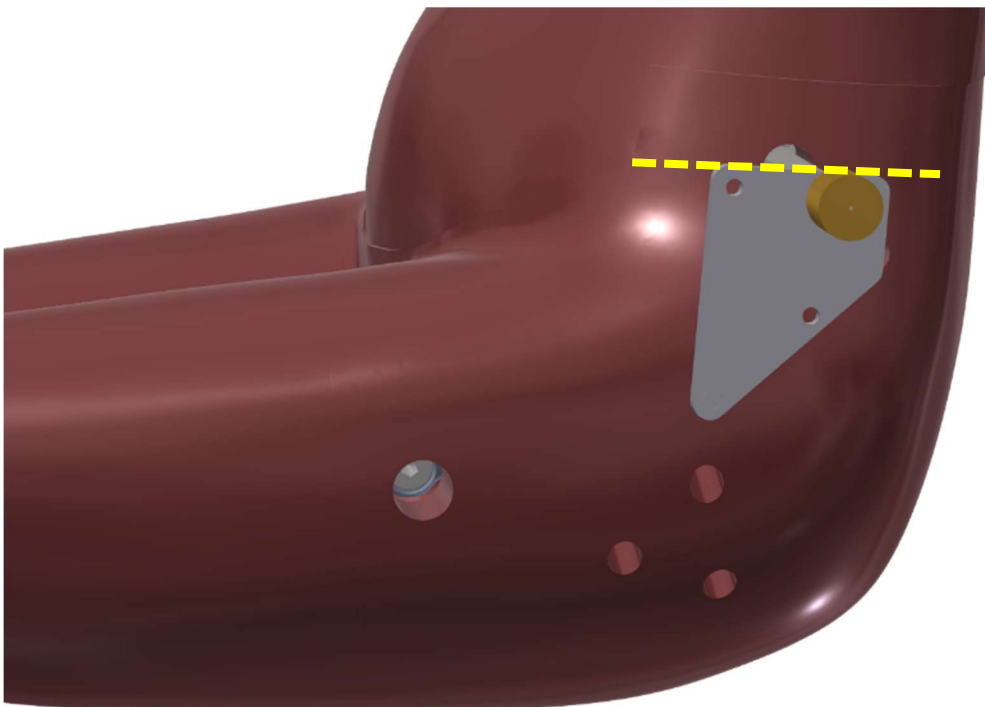

Figure 2-10. Top edge of H-Point tool is parallel to pelvis angle
- 2.4.2.3 With the pin assembly fully unscrewed, insert the expander end of the H-point tool into the pelvis H-point opening until the collar above the expander is fully seated internally against the pelvis. Turn the pin assembly clockwise until the expander engages firmly with the pelvis. Note that the top edge of the H-point tool is parallel to the pelvis angle (Figure 2-10).
the dummy normally begins by marking the location of the H-Point and moving this point to the desired location in the testing environment. When installed into the pelvis, the top surface of the gage plate is parallel with the measurement plane (Figure 2-10) of the pelvis tilt sensor. The operation and function of the tilt sensors is explained in each assembly which includes a tilt sensor.